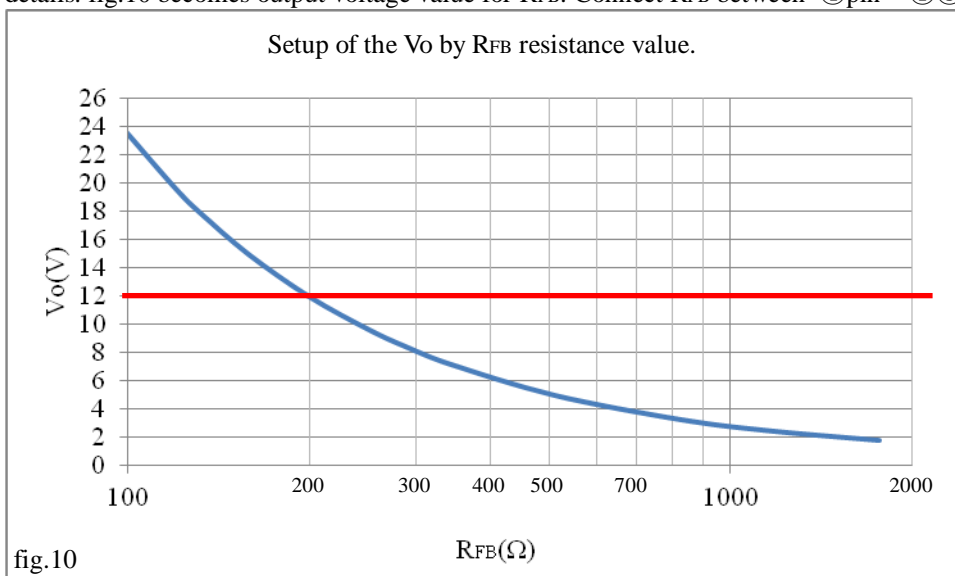

fig.10
As for details, please refer to the fig.10.
•If output impedance of the VIN power supply is ideally endless and it is near-zero, the ripple-current doesn't flow to Cin. To make stabilize movement of MPM01/04, You must connect the input capacitor "Cin" between ②pin to ①③pin in the shortest path. As for Cin, The withstand-voltage and allowable ripple-current ask for the selection which has a margin.
•The ripple-current that is switching frequency flows to output-capacitor "Co".Refer to an application notebook for the way of calculating the output-ripple-current. As for Co, Use the capacitor which has low-impedance character for the switch mode power-supply. To reduce the output-ripple-noise, You must connect the output capacitor "Co" between ⑤⑥⑦pin - ①③pin at shortest. As well as the case of Cin , The withstand-voltage and allowable ripple-current ask for the selection which has a margin.
(3) Output voltage setup resistor RFB
•With MPM01/04, An output voltage Vo can be set up by adjusting RFB. Refer to an application notebook for the details. fig.10 becomes output voltage value for RFB. Connect RFB between ④pin - ①③pin at shortest.